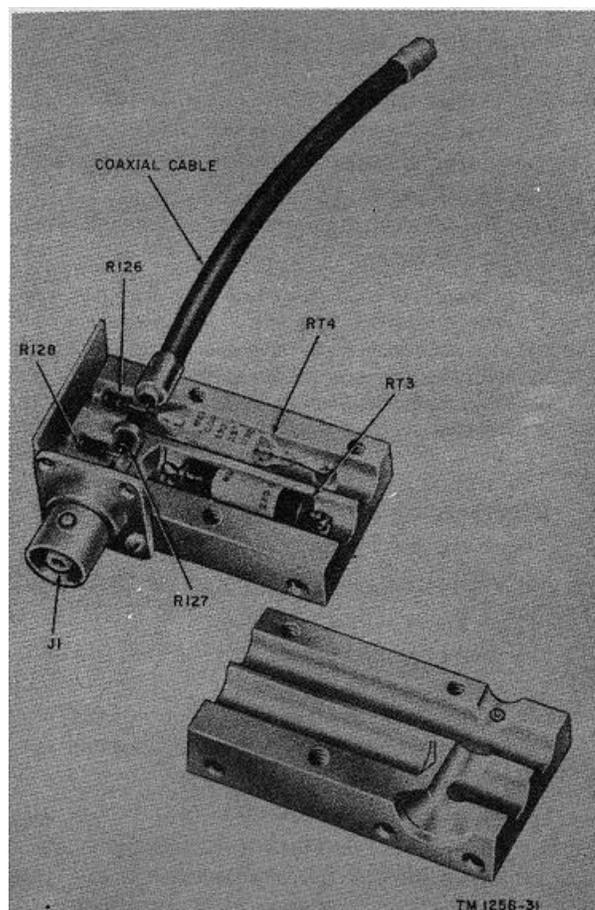

Figure 29. Bolometer assembly, interior view.
- (1) Remove the three screws which secure J1 (fig. 5) and the bottom half of the bolometer (fig. 29) mounting block to the front panel.